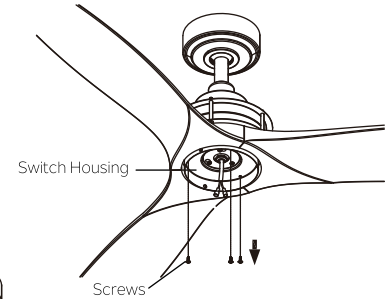

**Fig. 24**
**Step 4.** Place the two slot holes on the switch housing over the 2 screws previously installed on the mounting plate. Rotate the switch housing until it locks in place at the narrow end of the key holes. Secure by tightening the 2 screws previously installed and the one previously loosened on step 2. (Fig. 24)